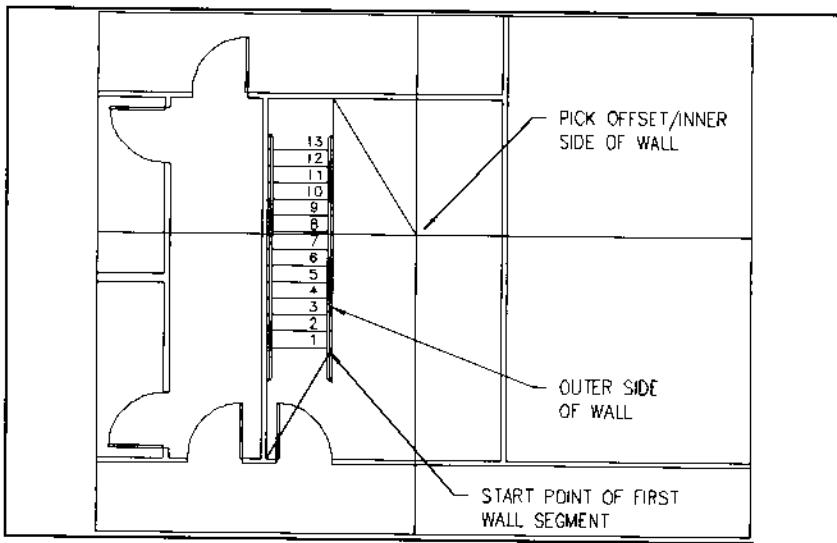

Figure 62.
8. Add a wall on right side of the stairs as shown in Figures 62 and 63.
- > Pick start point for the first wall segment <Autopt>: **ENDP** of [endpoint of first riser, as shown in Figure 62]